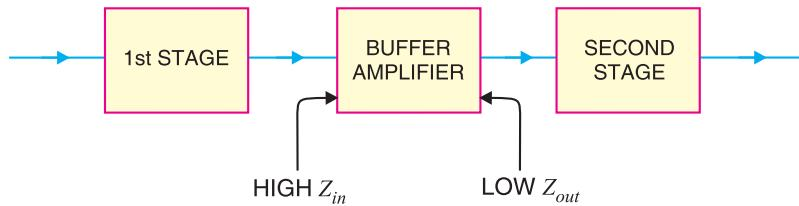

Fig. 19.41
**(i) As a buffer amplifier.** A buffer amplifier is a stage of amplification that isolates the preceding stage from the following stage. Because of the high input impedance and low output impedance, a *JFET* can act as an excellent buffer amplifier (See Fig. 19.41). The high input impedance of *JFET* means light loading of the preceding stage. This permits almost the entire output from first stage to appear at the buffer input. The low output impedance of *JFET* can drive heavy loads (or small load resistances). This ensures that all the output from the buffer reaches the input of the second stage.